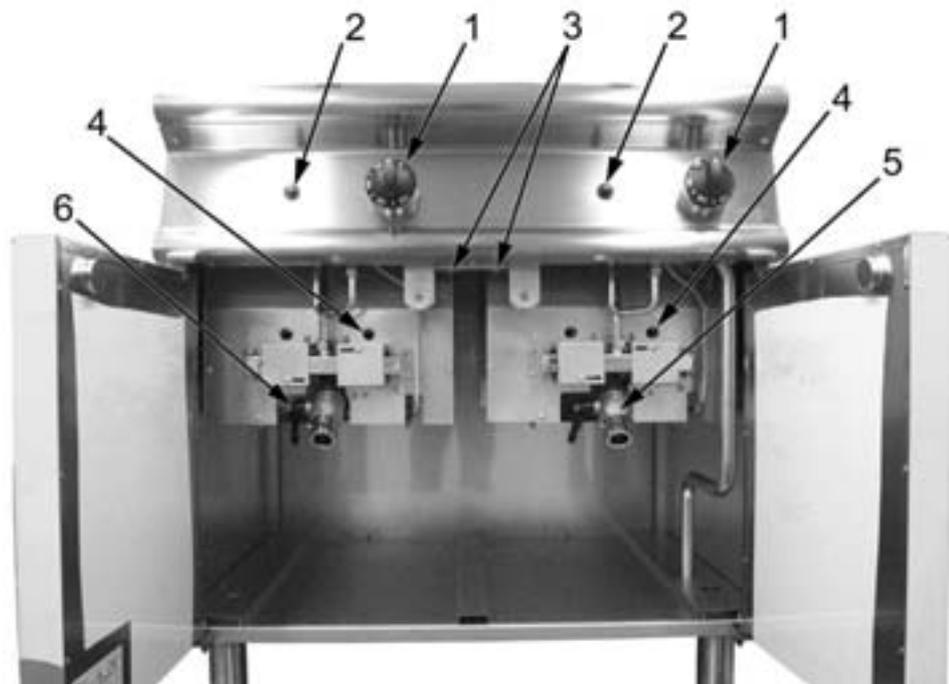
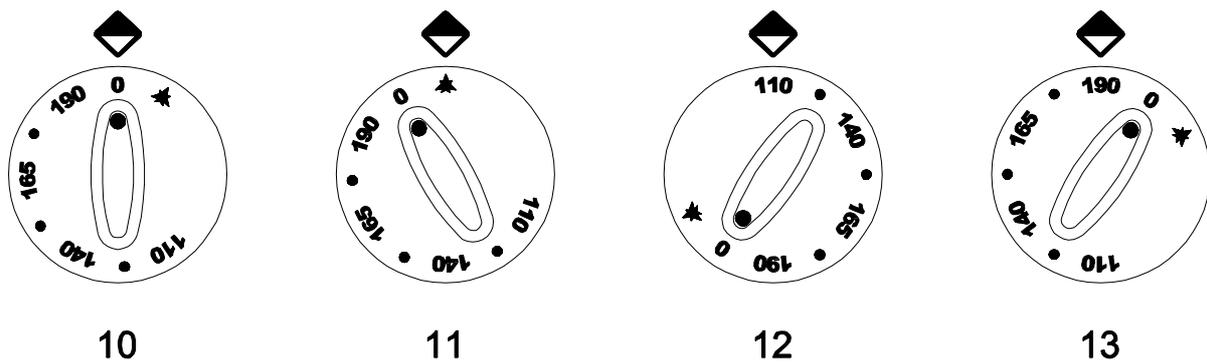

Fig. 1
Fig. 3
Oil temperature can be selected between 100°C (212°F) and 190°C (374°F) (item 1 in Fig. 1) and intermediate values.
The deep fat fryer is equipped with a safety thermostat (item 3 in Fig. 1) that stops gas flow in the event that oil temperature exceeds 230°C (446°F) for whatever reason.
First of all, check that the drain valve is closed (item 5 in Fig. 1 further above).
Push the knob and turn it towards the left to the position shown as item 11 in Fig. 3. Press and hold down the knob and at the same time push the ignition button (item 2 in Fig. 1). After lighting the pilot flame, hold the knob down for 15-20 seconds to allow the thermocouple to heat. If the pilot flame goes out, repeat the lighting process.
Proper pilot flame lighting can be checked through the viewing hole provided for that purpose (item 4 in Fig. 1 further above).
To light the main burner, exercise a slight pressure and turn the knob to the position corresponding to the desired temperature (item 12-13 in Fig. 3). Oil temperature will be kept at the set value by means of a thermostat that automatically turns the main burner on and off.
To turn off the main burner, turn the knob towards the right to the position shown by item 11 in Fig. 3: only the pilot flame will remain lit. Exercise a slight pressure and turn the knob to the position shown as item 10 to extinguish the pilot flame too.